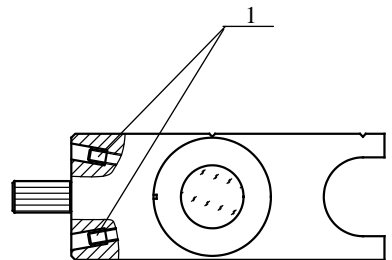

Figure 10
- 2) If the Bertrand lens is off center, you will need to adjust the centering screw to adjust the Bertrand lens back into the center of view, see Figure 10.